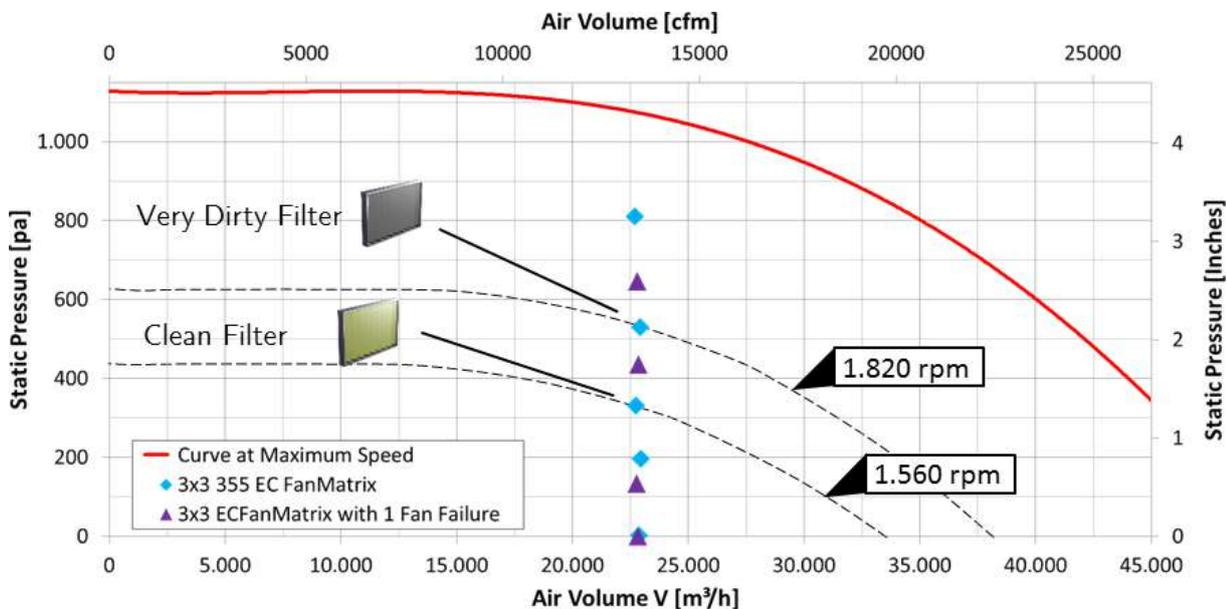

Figure 13: Constant Air Flow Control $22,500 \text{ m}^3/\text{h}$ (13,243 cfm)
- In Fig. 13, a Constant Air Flow Control of $22,500 \text{ m}^3/\text{h}$ (13,243 cfm).
In both cases, the measured points (diamonds and triangles) are equivalent to unique operating points of the system. The conclusion to be drawn from the two examples is, that a **System may change** as a result of Dampers opening, closing and or change in Pressure due to dirty Filters, but the **Fans always maintain the desired conditions**. The Red Curve in Fig. 13 and 14 on the facing page is representative of the Rosenberg ECFanGrid, operating at maximum speed.